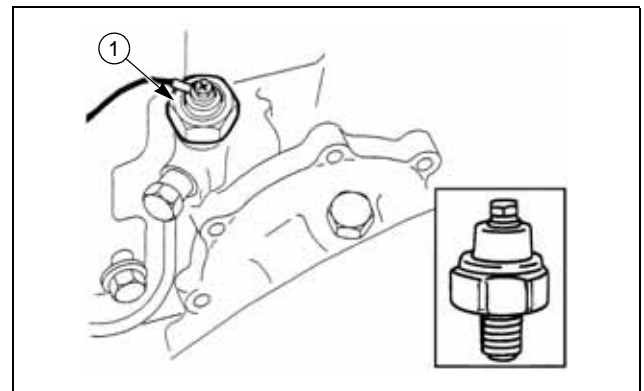

Fig. 5-8
The engine oil pressure switch, ① (page 5-3, Fig. 5-8), is located in the front of the engine cylinder head. The engine oil pressure switch closes (circuit completed) when engine oil pressure is less than 4.25 psi (29.4 kPa). This illuminates an indicator light on the instrument panel. The closed engine oil pressure switch will be opened after the engine is started. If the switch does not work after started, the oil level inside the engine may be low or there may be a problem with the oil pump.